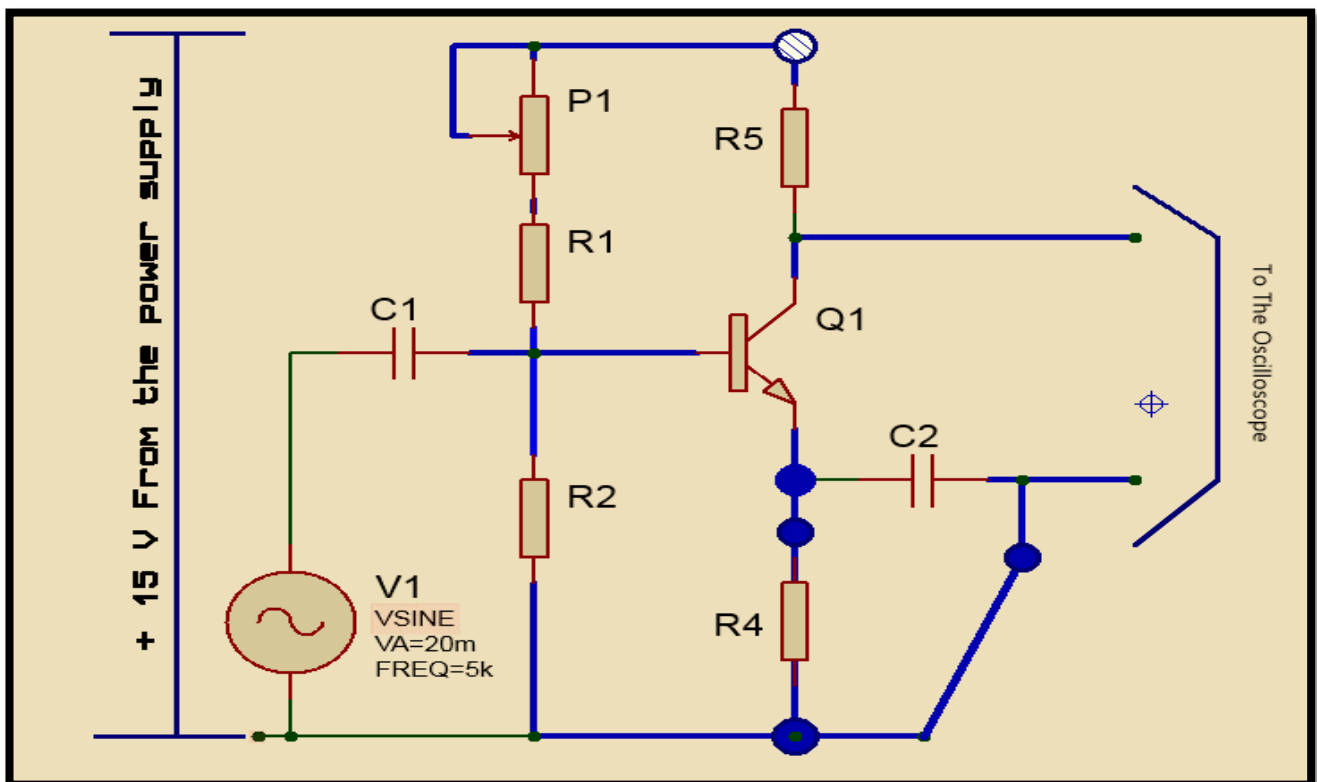

Fig.3: setup to study the output signal swing M100F3
- Change the wiring of the module Fig.3. by connecting a sine-wave generator, approx. 20mV_{rms}, 10KHz at the base input, while monitoring the collector signal by the oscilloscope.